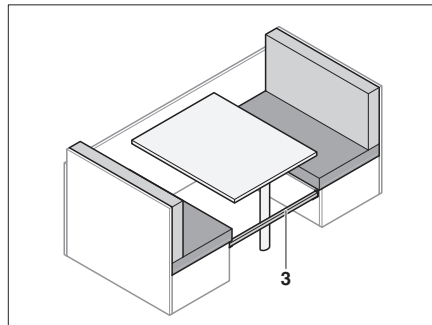

Fig. 62 Inserting the reinforcement panel
- Insert the additional rail (Fig. 62,3) between the benches.